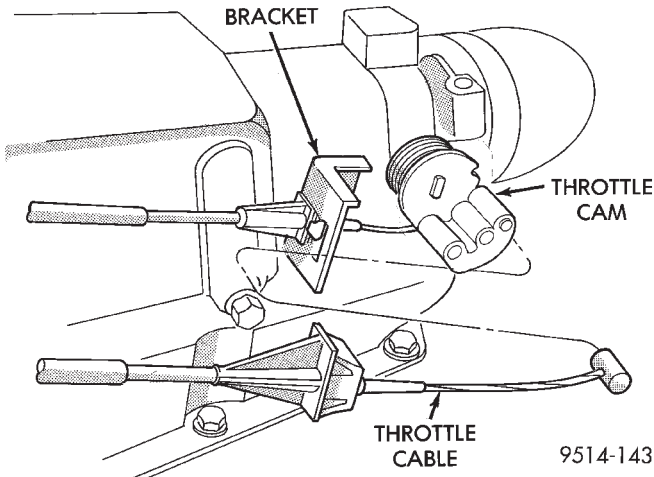

Fig. 55 Throttle Cable Removal/Installation—3.5L Engine
(1) Working from the engine compartment, hold the throttle body throttle lever in the wide open position. Pull the cable forward and slide it out of the throttle body cam (Fig. 54) or (Fig. 55).
(2) From inside the vehicle, hold up the pedal and remove the cable retainer and throttle cable from the upper end of the pedal shaft.
(3) Remove retainer clip from throttle cable and grommet at dash panel.
(4) From the engine compartment, pull the throttle cable out of the dash panel grommet. The grommet should remain in the dash panel.
(5) Remove the throttle cable from throttle bracket by carefully compressing both retaining ears simultaneously. Then gently pull the throttle cable from throttle bracket.